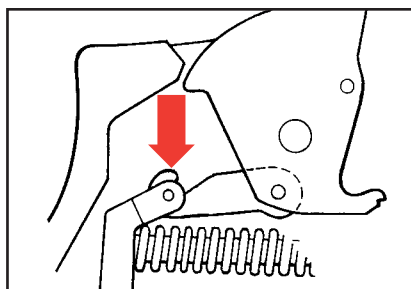

Figure 18
5. Squeeze trigger and lower the hammer into position. (See Figure 18. It shows the hook correctly engaged.) Align the hammer hole with the hole in the frame and insert the hammer pivot.